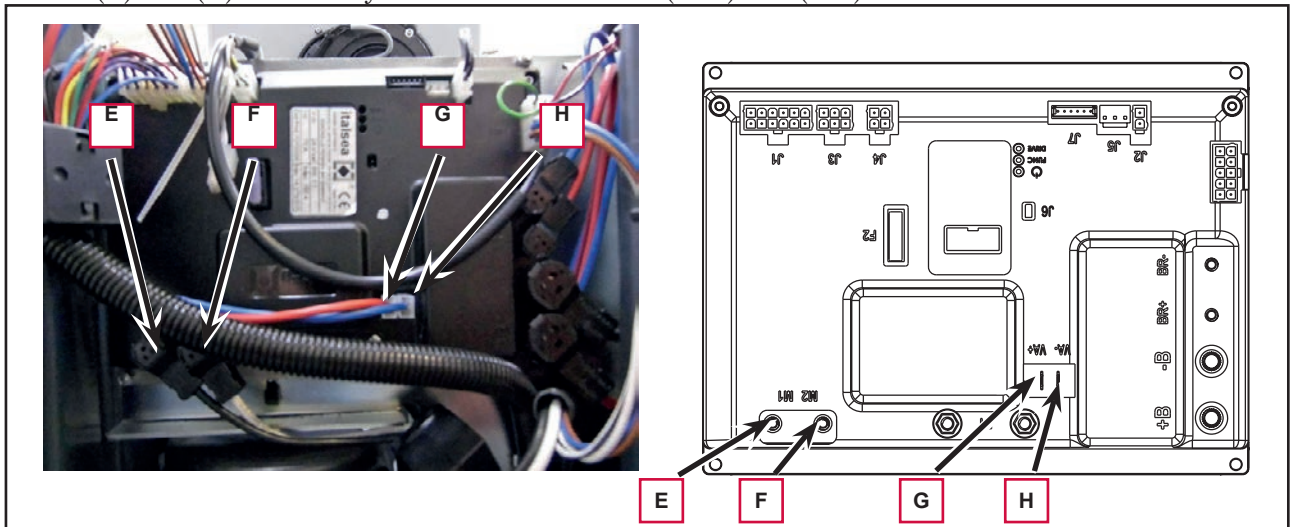

Figure 10
7. Disconnect the following connections (Figure 10):
- (E) and (F) Drive system motor connection (M1) and (M2).
- (G) and (H) Vacuum system motor connection (VA+) and (VA-).